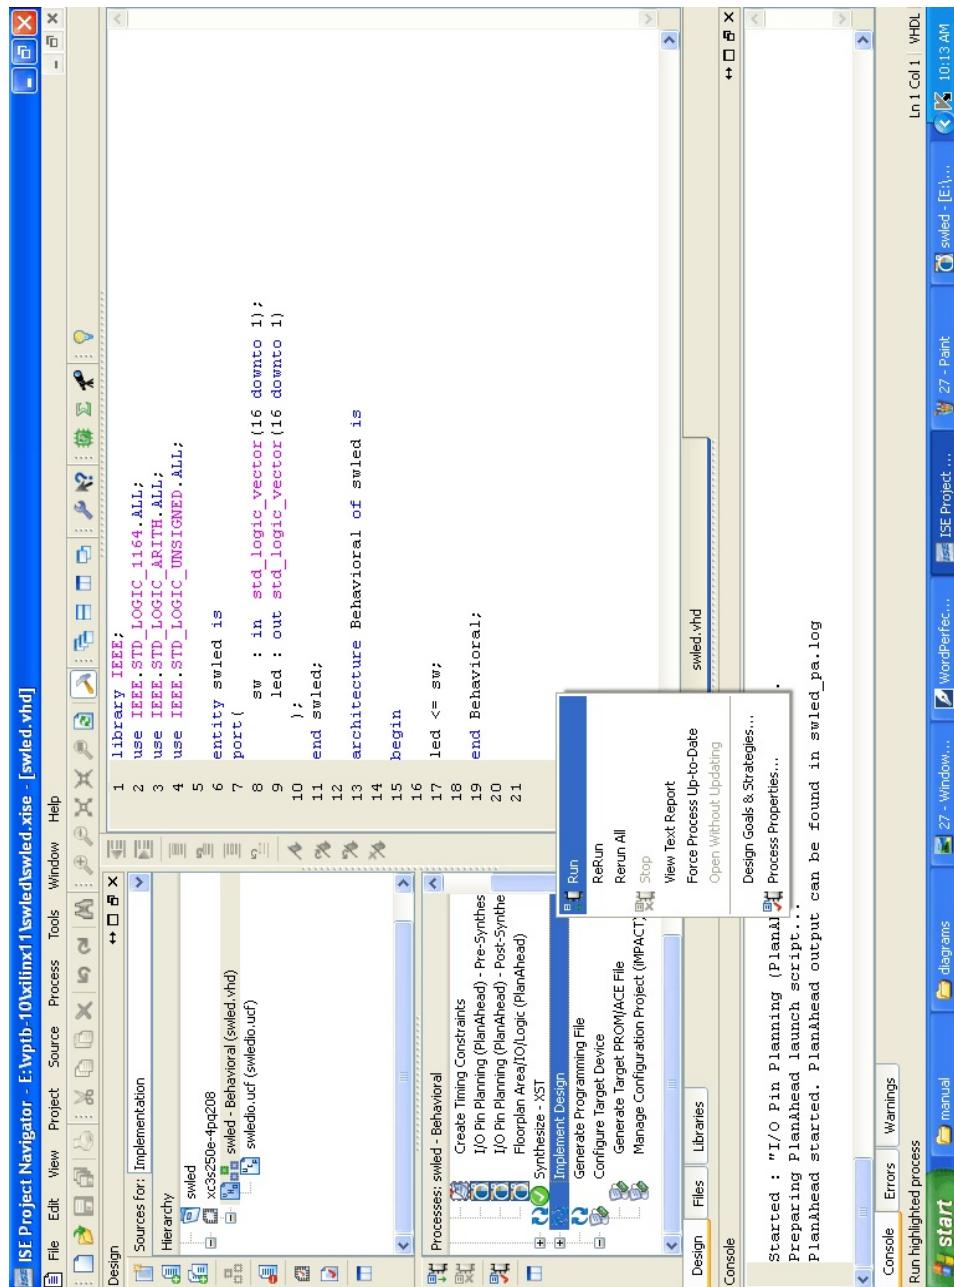
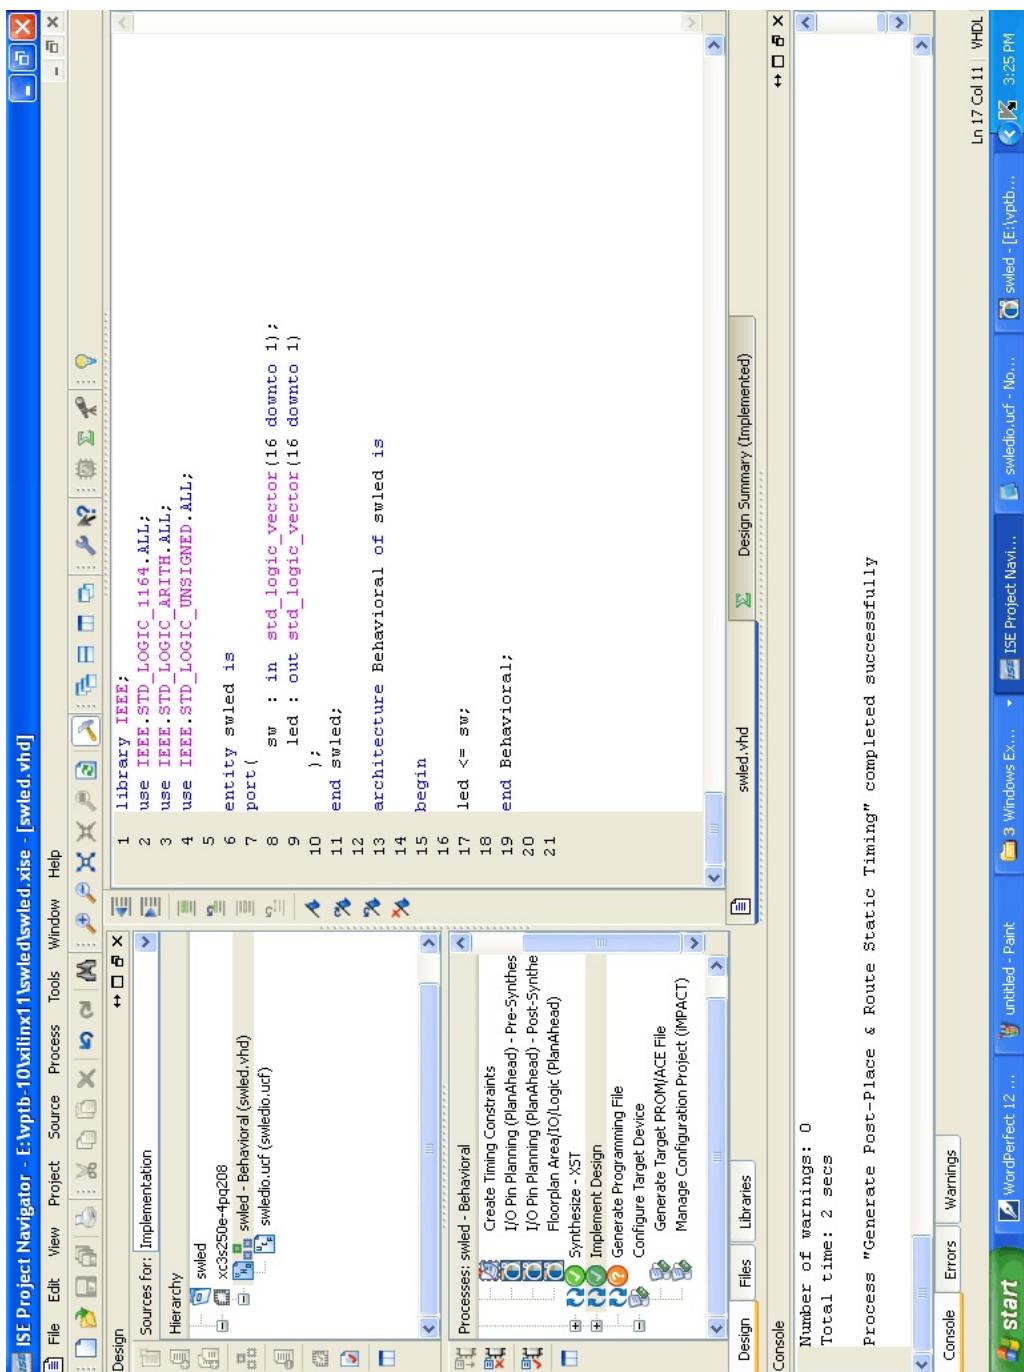
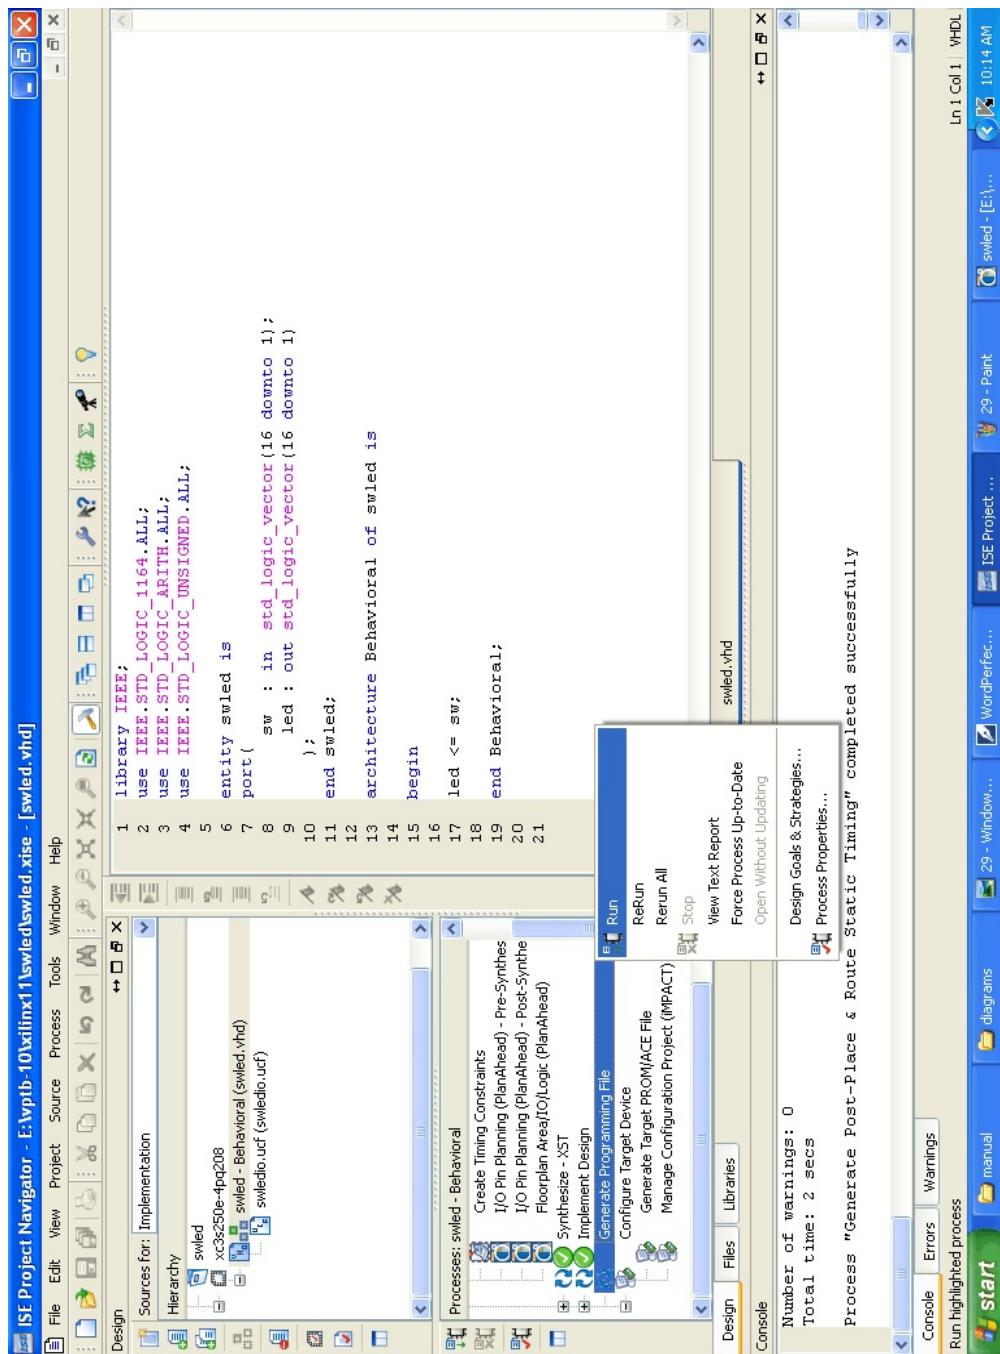
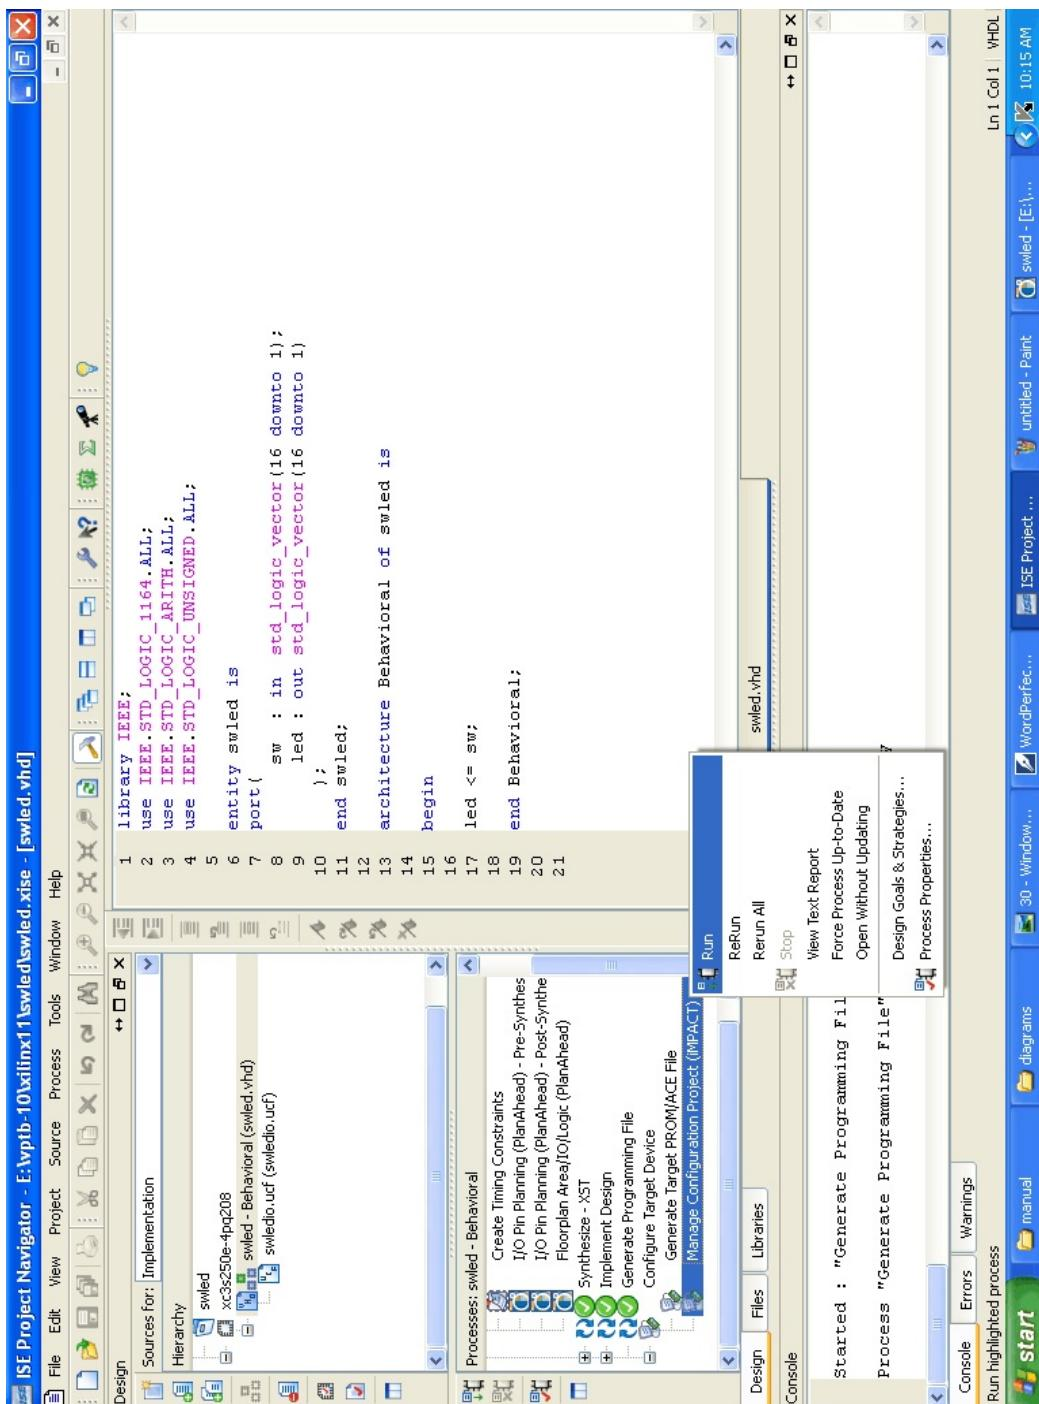

Figure-27
Figure-28
Figure-29
Figure-30
- In the **Project Navigator** window and click **Implement design** in **Processes**:category(refer **Figure-27**). After implement design has become successful(refer **Figure-28**), click **Generate Programming File** (refer **Figure-29**). After generate programming file has been completed successfully click **Manage Configuration Project (IMPACT)**(refer **Figure-30**).